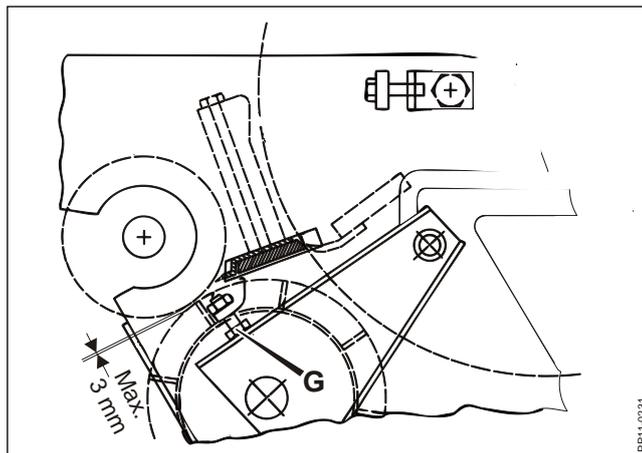

Fig. 4-17
**Fig. 4-17** The distance between the smooth roller and the serrated roller should be maximum 3 mm. Adjustment is made with the bolts **G** at both sides of the rotor housing.